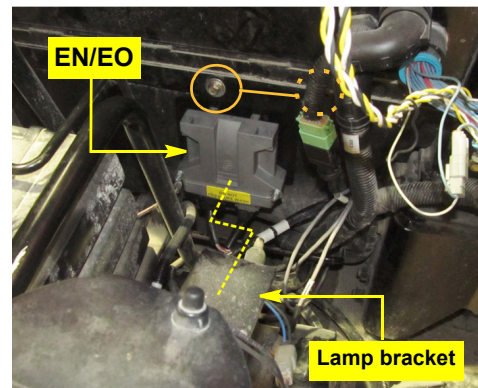

Figure 1b: Steering controller installed
- b. Using two of the machine's rubber flap mounting bolts (on the back of the cab—one visible in Figure 1b), install steering controller and bracket **EN/EO** against the mat, forward and to the left (as viewed) of the rear lamp bracket (Figure 1b).